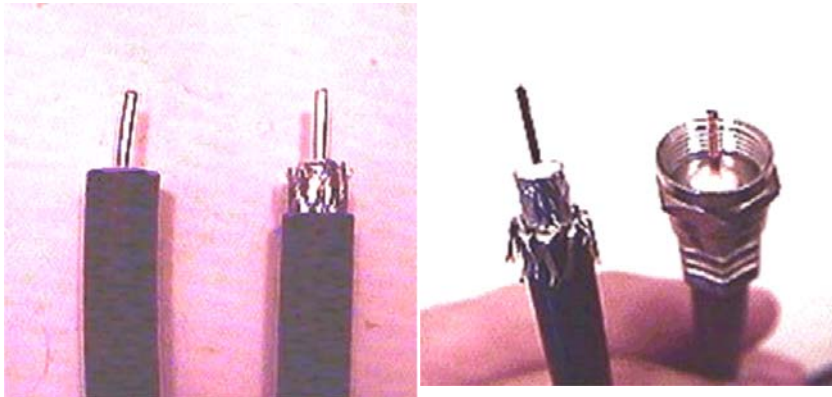

Figure 12. Folding the Braid
4. Fold the braid back over the jacket and trim the braid to the length as defined in Length C in Table 12 and shown in Figure 12.